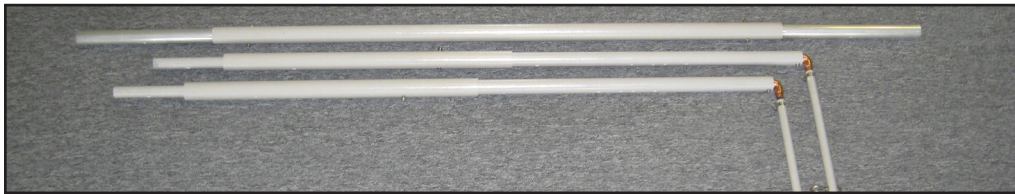

Fig. 19
**This completes both Boom End Sub-Assemblies. Place both aside with the Center Boom Assembly as shown in Fig. 19.**